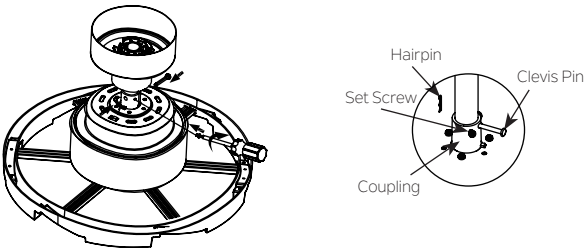

Fig. 11
Step 6. Pass the clevis pin through the downrod and coupling found on the motor assembly, and secure with the hair pin. Tighten set screws found on the coupling. (Fig. 11)